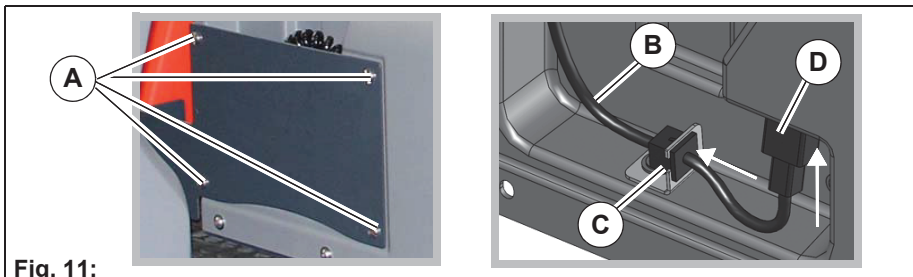

Fig. 11:
1. Loosen the bolts of the cover **Fig. 11-A** using the supplied socket wrench and remove the cover.
2. Route the cable of the mains plug **Fig. 11-B** through the opening in the bracket **Fig. 11-C**. Ensure that the side of the strain relief without a latch faces the front towards the opening.
4. Plug the mains plug **Fig. 11-D** straight and firmly into the holder.